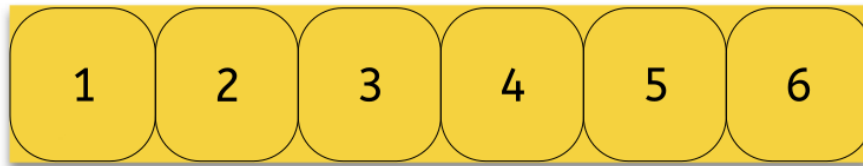

Figure 5: Partitioning of the goal into 6 parts.
9.3.A.3 Initially, the opposite goal is completely open (see Figure 5). After each scored goal a member of the team rolls a die and the part of the goal that corresponds to the number on the dice will be covered with a black box. If this part of the goal is already covered, the die will be rolled again (see Figure 6).